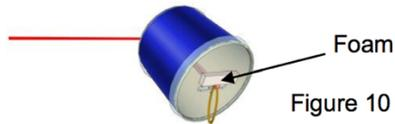

Figure 10
10. Remove the release paper from the piece of adhesive foam. Place the foam on the lid next to the paperclip. See figure 10.